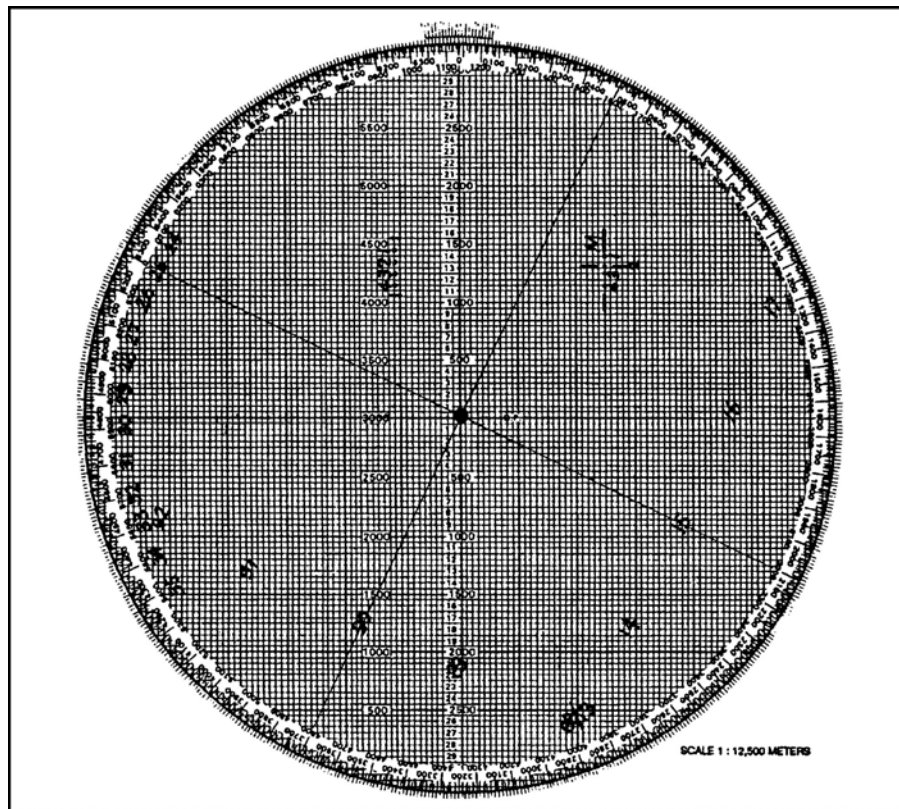

Figure 5. Plotting Firing Data on M16 Plotting Board
- (1) To plot the target on the plotting board, the computer rotates the azimuth disk until the target attitude (taken from the call for fire) is indexed. The computer erases all the plots except the last. Being sure that the attitude is indexed, the computer makes a plot 100 meters above that adjustment plot, then another plot 100 meters above the plot followed by one last plot 100 meters above that plot. These plots represent the start points for each mortar. The area between the plots, and for 100 meters beyond the last plot, is the area each mortar must cover with fire (Figure 5).
- (2) The target is now divided into four segments. By determining the remaining data for one segment, the data will apply to all four mortars.